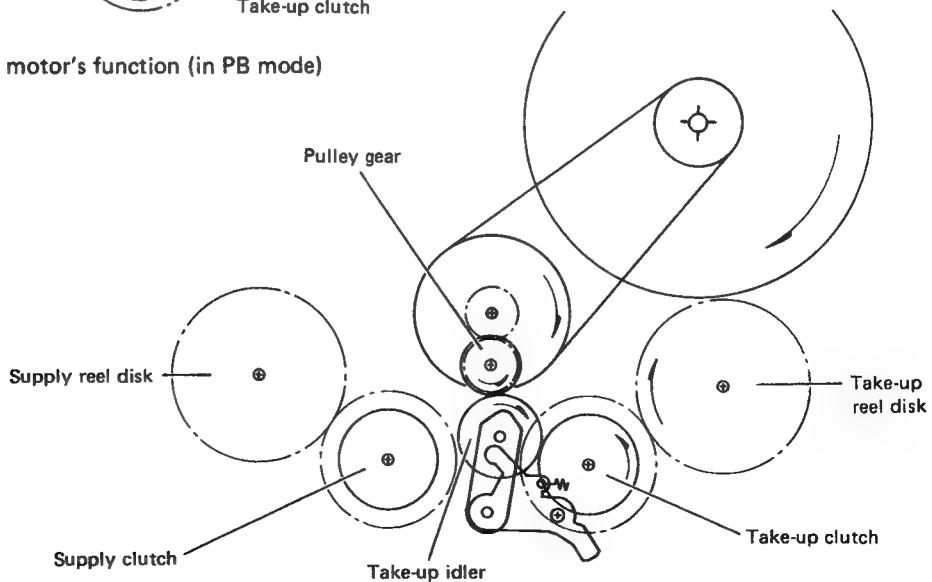
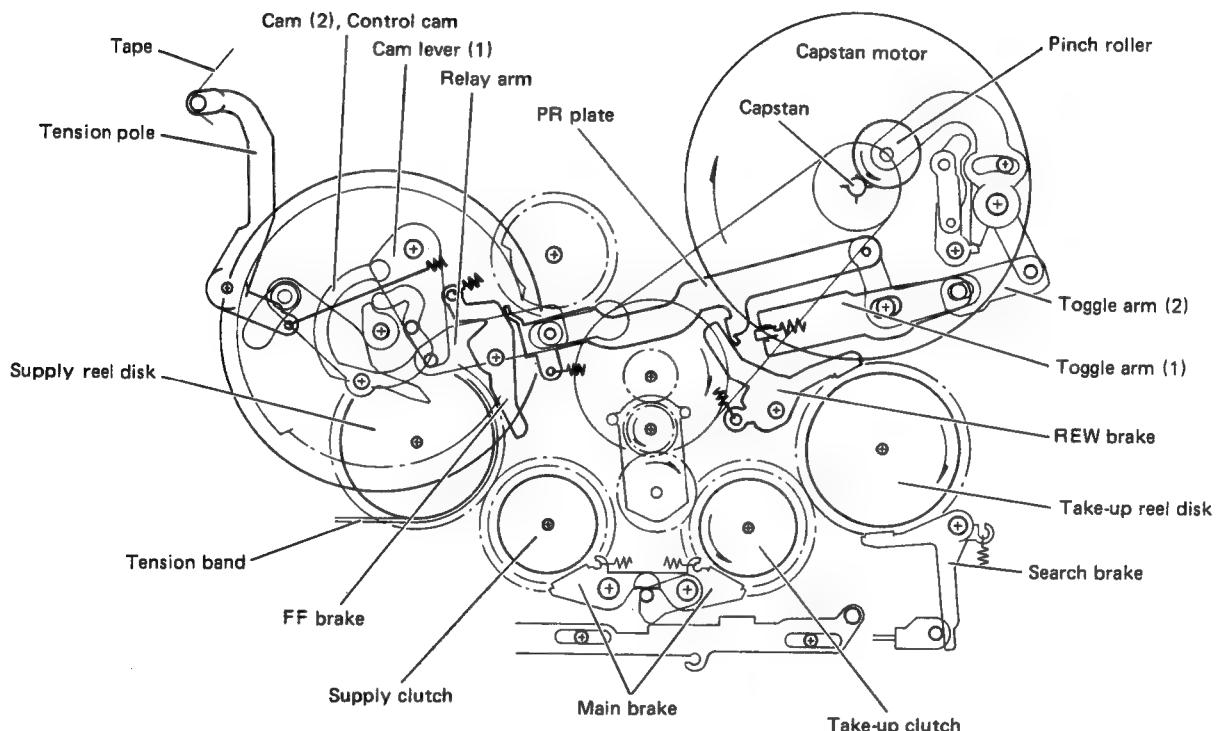

Fig. 7-5-2 Capstan motor's function (in FF mode)
Fig. 7-5-6 Playback mode
In the FF (Fast Forward) mode, rotation of the capstan motor is directly transmitted to the take-up reel disk. (See Fig. 7-5-2.)
5. The pinch roller is positioned considerably apart from the capstan by function of the cam (2). (Fig. 7-5-6)
4. The pinch roller is in contact with the capstan by function of the cam (2). (Fig. 7-5-6)
5. The capstan motor is rotating to forward and rewind tape. (Fig. 7-5-2)
6. The pinch roller is slightly off the capstan by function of the cam (2). (Fig. 7-5-6)
1. Motion in this mode is the same as that in the playback mode except the following items (2) through (4). (Fig. 7-5-6)
2. Both the FF and REW brakes are off the reel disk by function of the cam (2). (Fig. 7-5-6)
4. The capstan motor rotates to transport and rewind tape. (Fig. 7-5-2)
5. The tension pole releases tape from back-tension by function of the cam (1).
6. The pinch roller is in contact with the capstan by function of the cam (2) in order to transport tape. (Fig. 7-5-6)